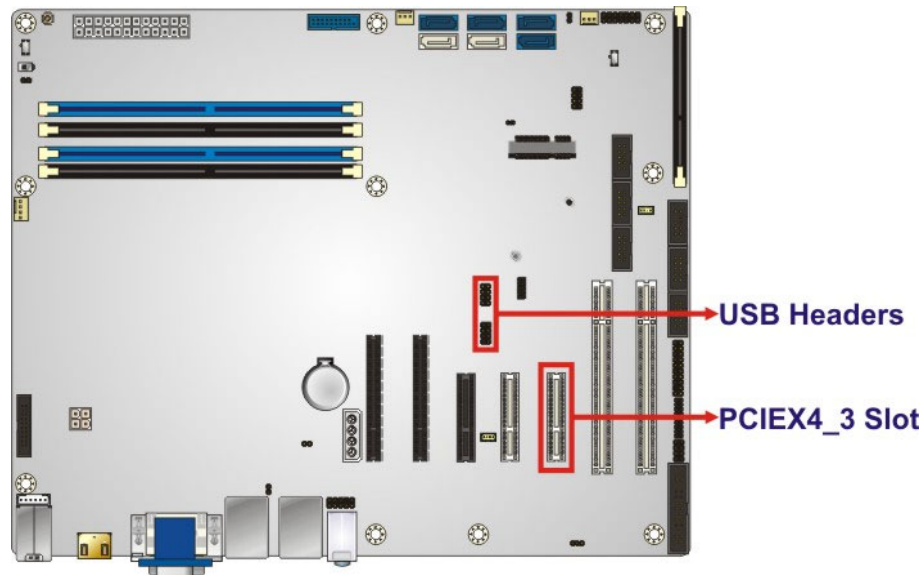

Figure 4-15: PCIEX4_3 Slot Location
Step 1: Install the expansion card to the **PCIEX4_3** slot on the motherboard. Align and insert the PCIe edge connector on the bottom of the expansion card to the **PCIEX4_3** slot (**Figure 4-15**) on the IMBA-Q170-i2. Then, push down gently on the expansion card to make sure it is firmly inserted into the **PCIEX4_3** slot.